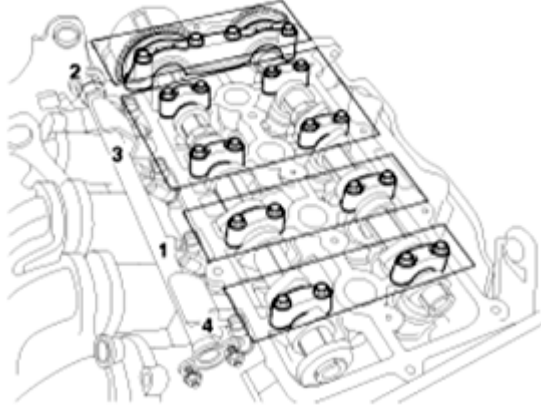

Fig. 29: Identifying Installation Sequence Of Camshaft Bearing Caps
12. Install the camshaft bearing caps with the order shown in **Fig. 29**.